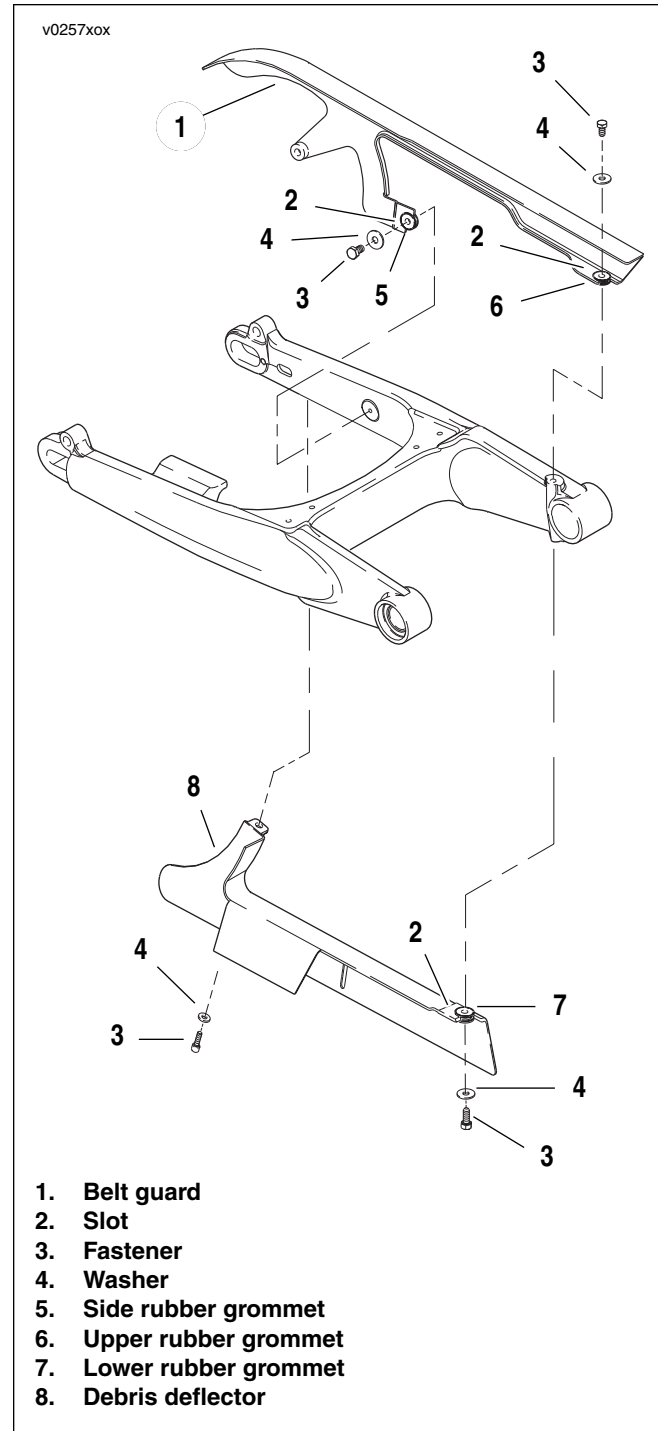

Figure 2-155. Belt Guard/Debris Deflector (typical)
1. See Figure 2-155. Unthread left side lower shock mount bolt from belt guard (1) without removing shock mount bolt from rear fork.
2. Pull belt guard (1) rearward off of side rubber grommet (5) and upper rubber grommet (6). If necessary, remove fasteners (3) holding grommets (5, 6) to rear fork.
1. See Figure 2-155. Remove fastener (3) and washer (4) from the underside of the rear fork near the rear shock mount.
2. Pull the debris deflector (8) rearward off of the lower rubber grommet (7) and remove the debris guard.
3. Inspect the rubber grommet (7) on the rear fork and remove the bolt and rubber grommet if necessary.
1. See Figure 2-155. If necessary, replace the rubber grommets (5, 6) and bolts. Tighten bolts to 6-10 Nm (53-88 in-lbs).
1. See Figure 2-155. If necessary, replace rubber grommet (7) and fastener (3). Tighten fastener to 6-10 Nm (53-88 in-lbs).
2. Slide debris deflector slot (2) into position on the rubber grommet (7).
3. Thread rear fastener (3) and washer (4) through debris deflector (8) into rear fork. Tighten fastener to 6-10 Nm (53-88 in-lbs).